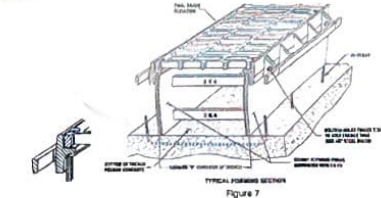

Figure 7
- * Use Figure 7 as a guide.
- * Reinforcing bar can be installed per Figure 7.